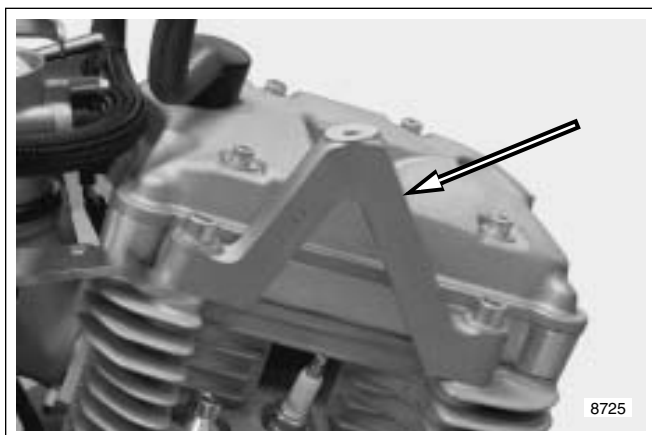

Figure 3-27. Center Tie Bar Mount
- See Figure 3-27. Center tie bar mount.